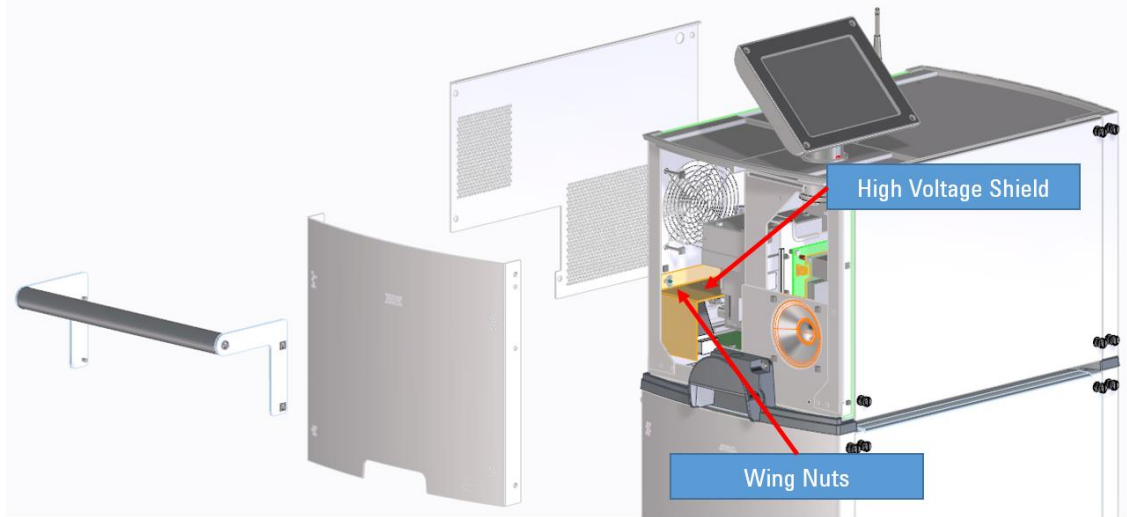

Figure 2: Plastic Shield
- Remove the two wing nuts holding the plastic shield around the leak detector power input area and remove the shield (“Figure 2: Plastic Shield”).
11. Reinstall the ("Figure 2: Plastic Shield").